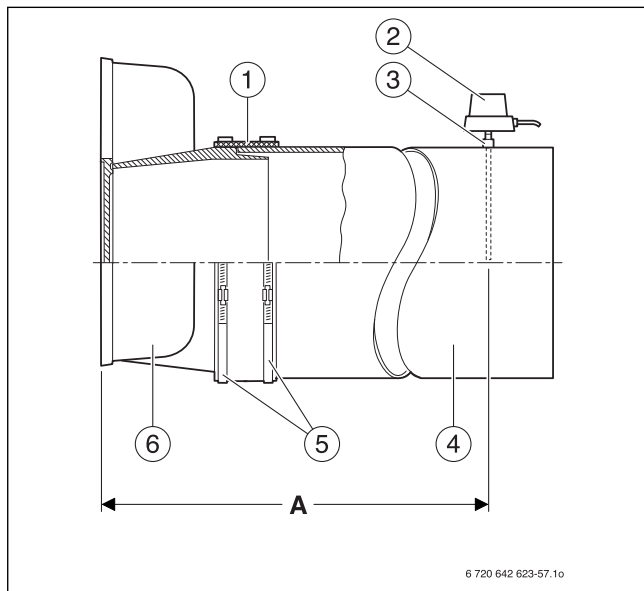

Fig. 49 Sealing the vent pipe
We recommend you use a vent pipe sealing collar (→ Fig. 49, [1]).
- ▶ Push the vent pipe (→ Fig. 49, [4]) as far as possible onto the draft diverter outlet (→ Fig. 49, [6]).
- ▶ Place the vent pipe sealing collar (→ Fig. 49, [1]) around the vent pipe (→ Fig. 49, [4]) and draft diverter (→ Fig. 49, [6]) outlet so that it overlaps at the top.
- ▶ Place hose clamps (→ Fig. 49, [5]) over the vent pipe sealing collar (→ Fig. 49, [1]). One of the hose clamps (→ Fig. 49, [5]) must press onto the draft diverter outlet (→ Fig. 49, [6]) and one onto the vent pipe (→ Fig. 49, [4]).
- ▶ Tighten hose clamps (→ Fig. 49, [5]). The vent pipe sealing collar (→ Fig. 49, [1]) must fit smoothly and firmly in place.
- ▶ Weld a sleeve (→ Fig. 49, [3]) at a distance of two (2) \times vent pipe diameters (A) from the draft diverter (→ Fig. 49, [6]) in the vent pipe (→ Fig. 49, [4]).
- ▶ Fit the flue gas temperature sensor (→ Fig. 49, [2]) as described in the separate installation manual.